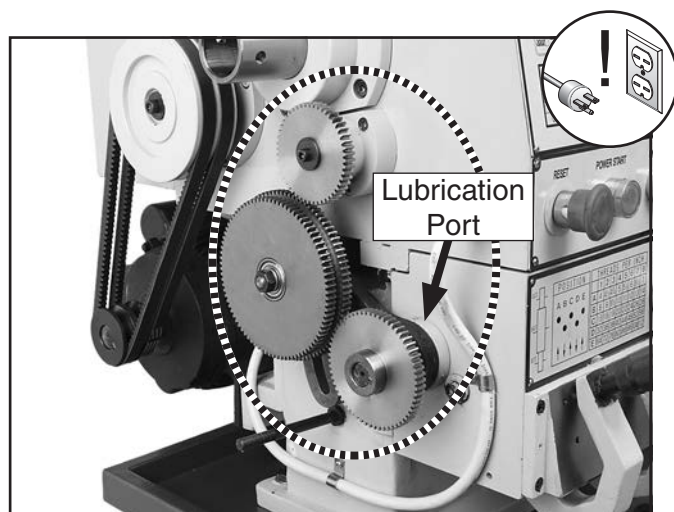

Figure 102. End gears.
The end gears, shown in **Figure 102**, should always have a thin coat of heavy grease to minimize corrosion, noise, and wear. Wipe away excess grease that could be thrown onto the V-belts and reduce optimal power transmission from the motor.
2. Remove end gear cover and all end gears shown in **Figure 102**.